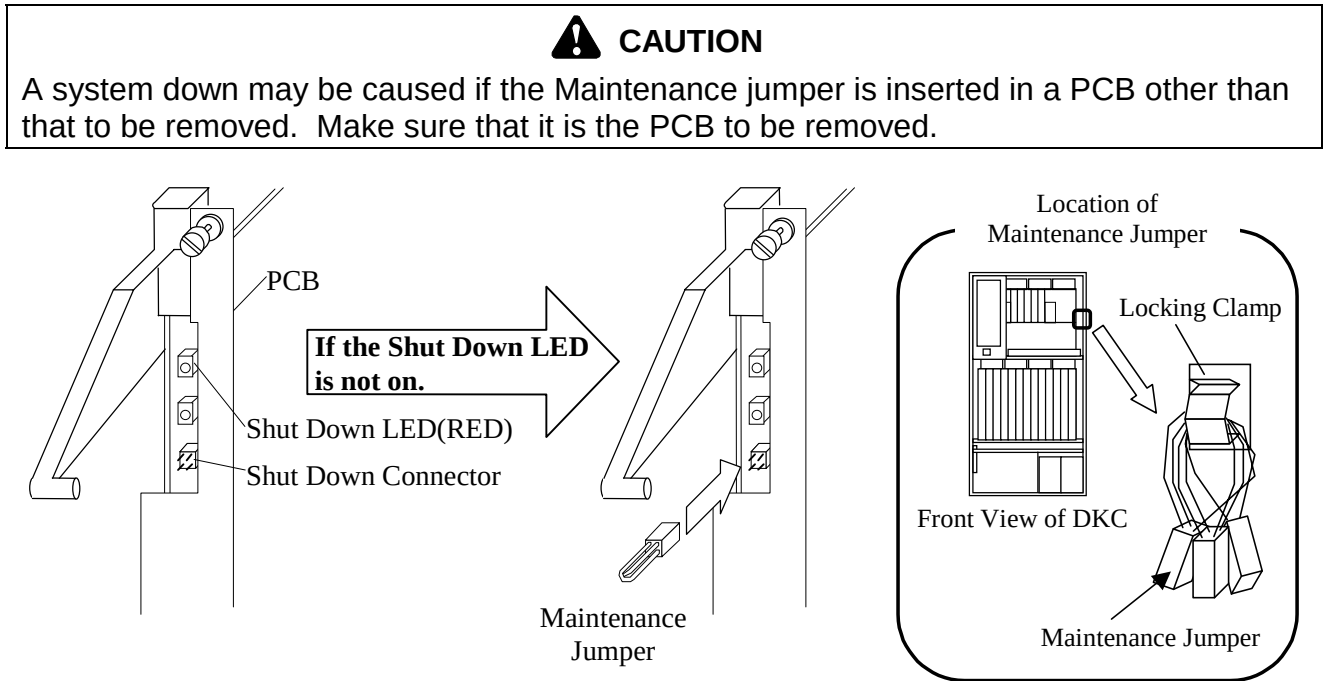

Fig. 4.4.2-1 Shut Down LED
- a. Confirm that Shut Down LED is on.(Fig. 4.4.2-1). If the LED is not on, connect the Maintenance Jumper to the Shut Down Connector.
- Remove the brackets and cable clamp referring to Fig 4.4.2-2.
- Disconnect the optical fibre cables referring to Fig 4.4.2-3.